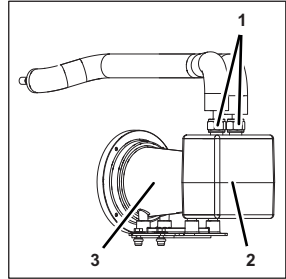

Figure 53
2. Release the couplings (Figure 53/1) on the tubes and remove the tubes from the circulation pump (Figure 53/3).
3. Remove the insulation (Figure 53/2) from the circulation pump (Figure 53/3).
14. Attach the tubes to the circulation pump (Figure 53/3).
15. Attach the insulation (Figure 53/2) to the circulation pump (Figure 53/3).
2. Release the couplings (Figure 53/1) on the tubes and remove the tubes from the relevant circulation pump (Figure 53/3).
3. Remove the insulation (Figure 53/2) from the relevant circulation pump (Figure 53/3).